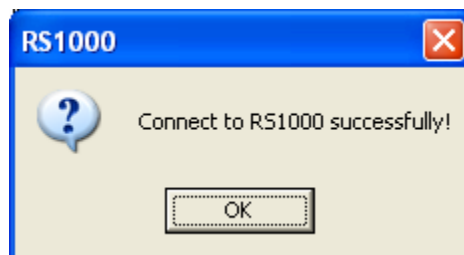

Fig. 29
Step 3: Click on the “Connect” icon . The below pop-up window will be shown: (Fig. 29)